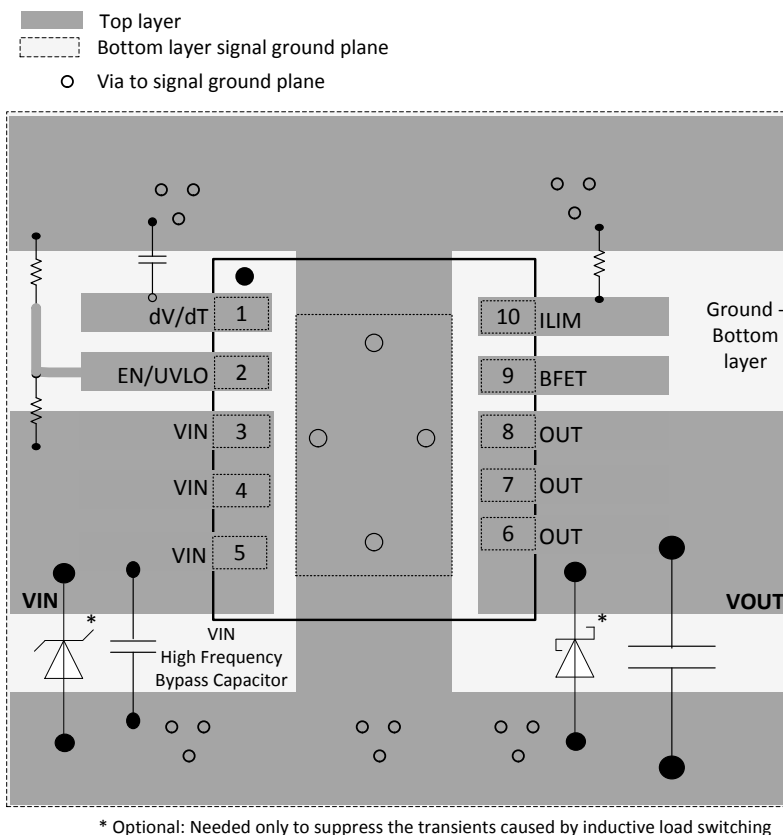

Figure 33. Layout Example
- The optimum placement of decoupling capacitor is closest to the IN and GND terminals of the device. Care must be taken to minimize the loop area formed by the bypass-capacitor connection, the IN terminal, and the GND terminal of the IC. See Figure 33 for a PCB layout example.